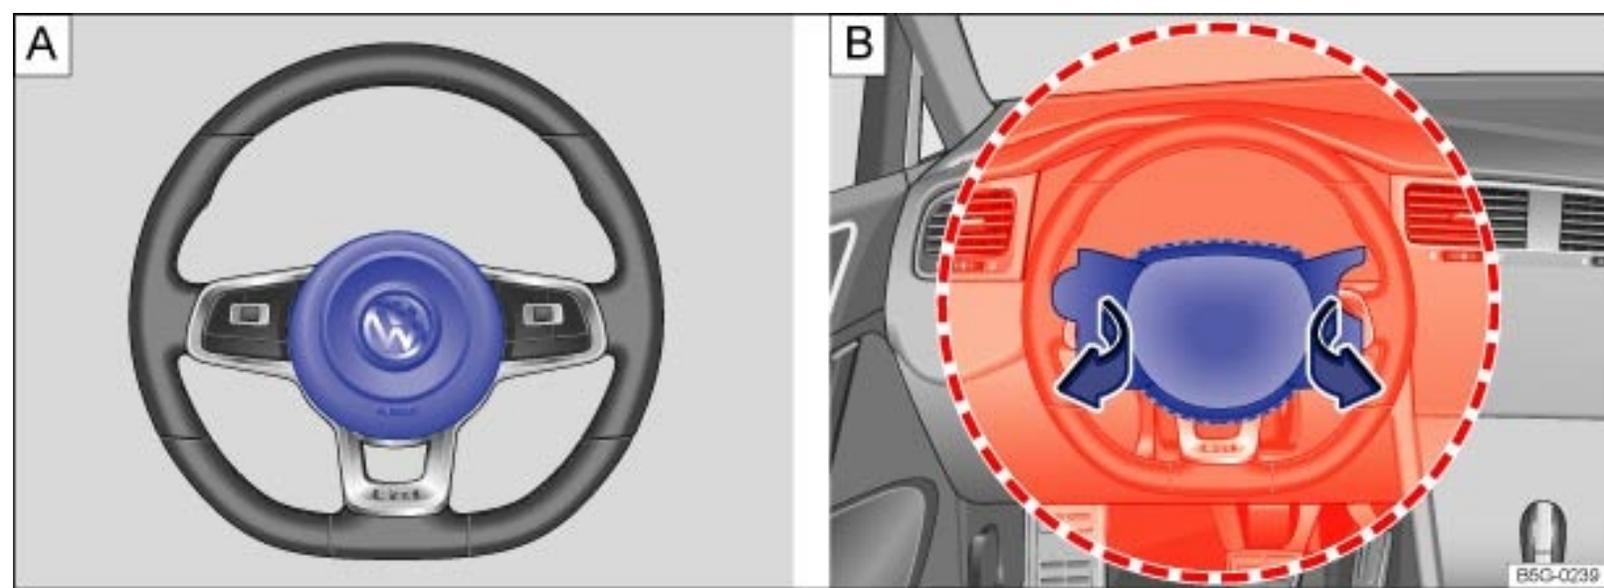
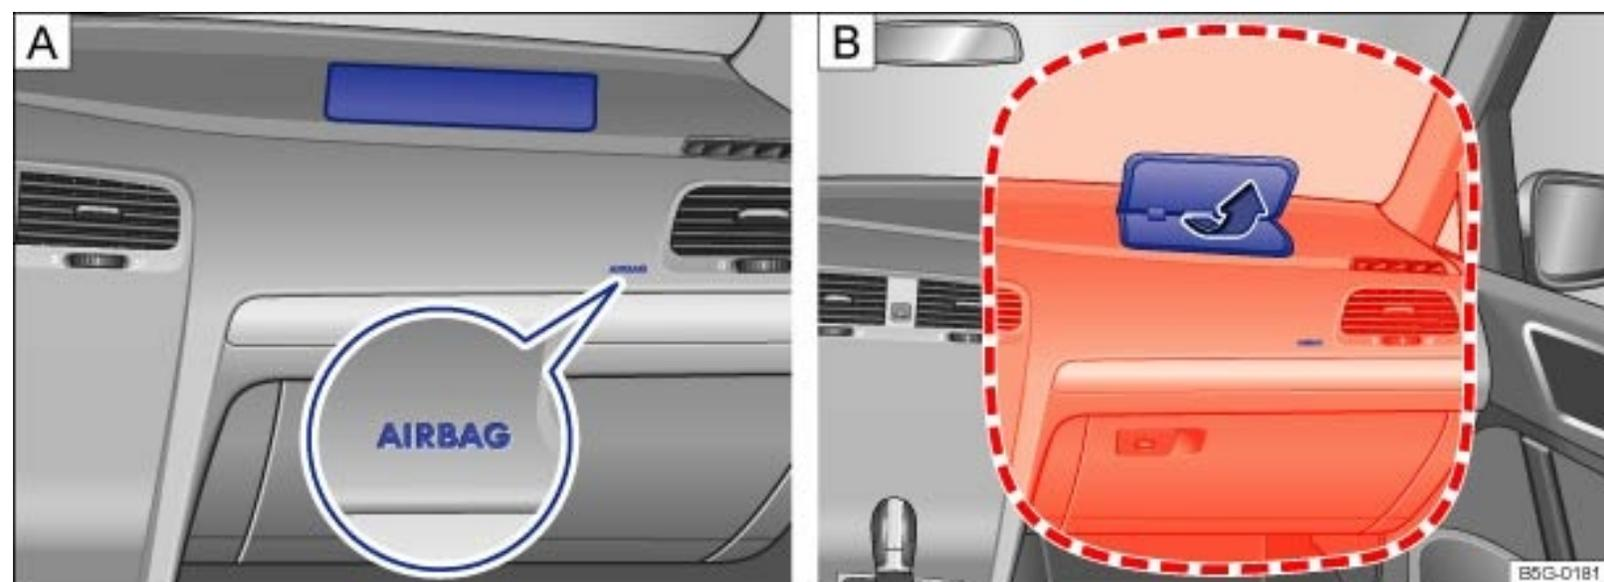

Fig. 68 Location and deployment zone of the driver front airbag.
Fig. 69 Location and deployment zone of the front passenger front airbag.
Standard (CMVSS) 208 applicable at the time your vehicle was manufactured. The airbag for the driver is in the steering wheel hub → Fig. 68  and the airbag for the front passenger is in the instrument panel → Fig. 69 . The general location of the airbags is marked AIRBAG.
The areas marked in red (dotted lines) → Fig. 68  and → Fig. 69  indicate the airbag deployment zone. Never place or attach accessories or other objects (such as cup holders, telephone brackets, note pads, navigation systems, large, heavy or bulky objects) on the doors, on the windshield, over or near the area marked in red (dotted lines).
- Never place accessories or other objects (such as cup holders, telephone brackets, notepads, navigation systems, or things that are large, heavy, or bulky) on the doors or attach them to the doors; never place them over or near the area marked AIRBAG on the steering wheel, instrument panel, or seat backrests, or between those areas and someone in the vehicle → Fig. 68 and → Fig. 69. Such objects could cause serious